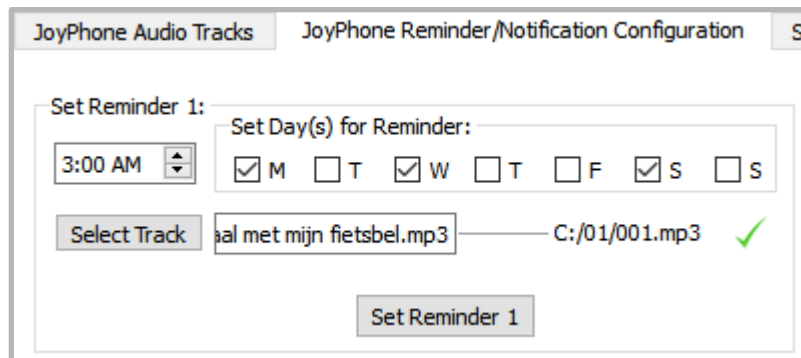

Figure 24: Reminder notification set with success.
5. This will save the audio file on the SD card and set the reminder settings on the controller. A check mark will appear indicating that the reminder is set successfully (figure 24).